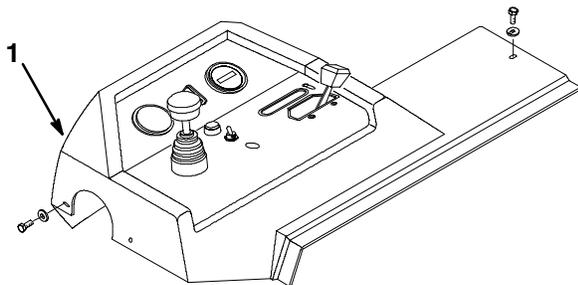

Figure 1
2. Remove (3) screws securing console shroud and remove shroud (Fig. 1).
10. Re-install console shroud (Fig. 1).